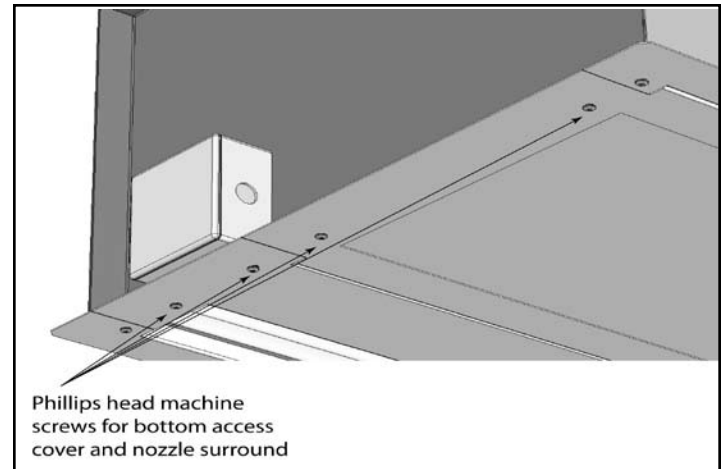

Figure 6
- Remove the bottom access cover by removing (4) Phillips head machine screws located at the cover's corners. **See Figure 6.**
2. Remove the bottom access cover by removing (4) Phillips head machine screws located at the cover's corners. **See Figure 6.**
3. If desired, the nozzle surround may be removed to provide more working room. To remove the nozzle surround, remove the (4) Phillips head machine screws from the corners. The Intelliswitch® ribbon cable must also be disconnected from the back of the display circuit board